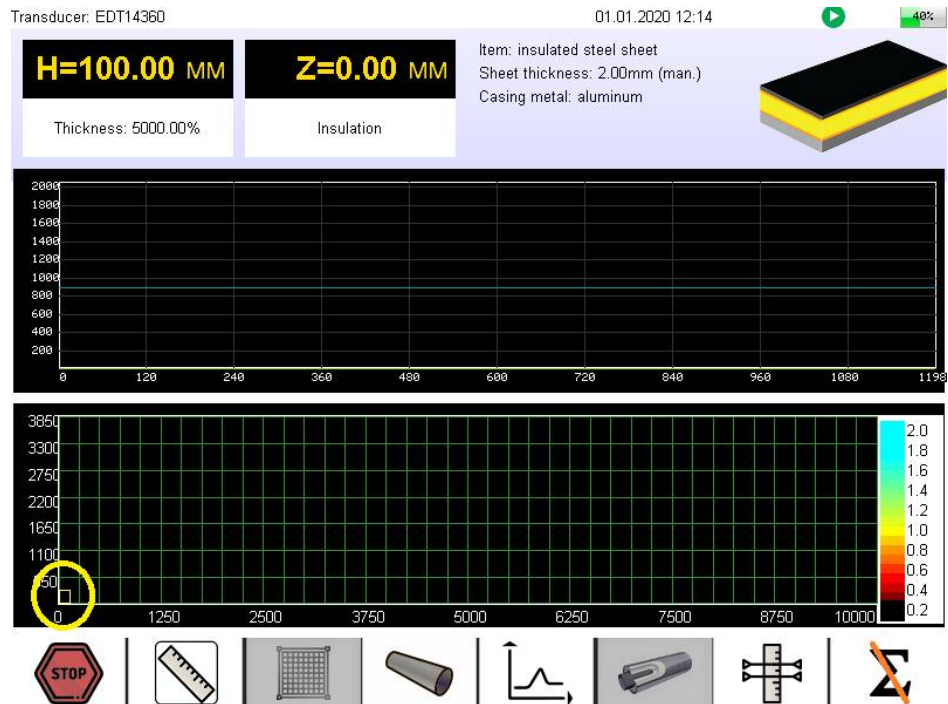

Figure 53. Sensor position indicator.
- The current sensor position indicator is displayed in the lower left angle of C-scan. Immediately after the start of scanning, the sensor position indicator is in the C-scan point with coordinate (0.0). This position is shown in Figure 53.